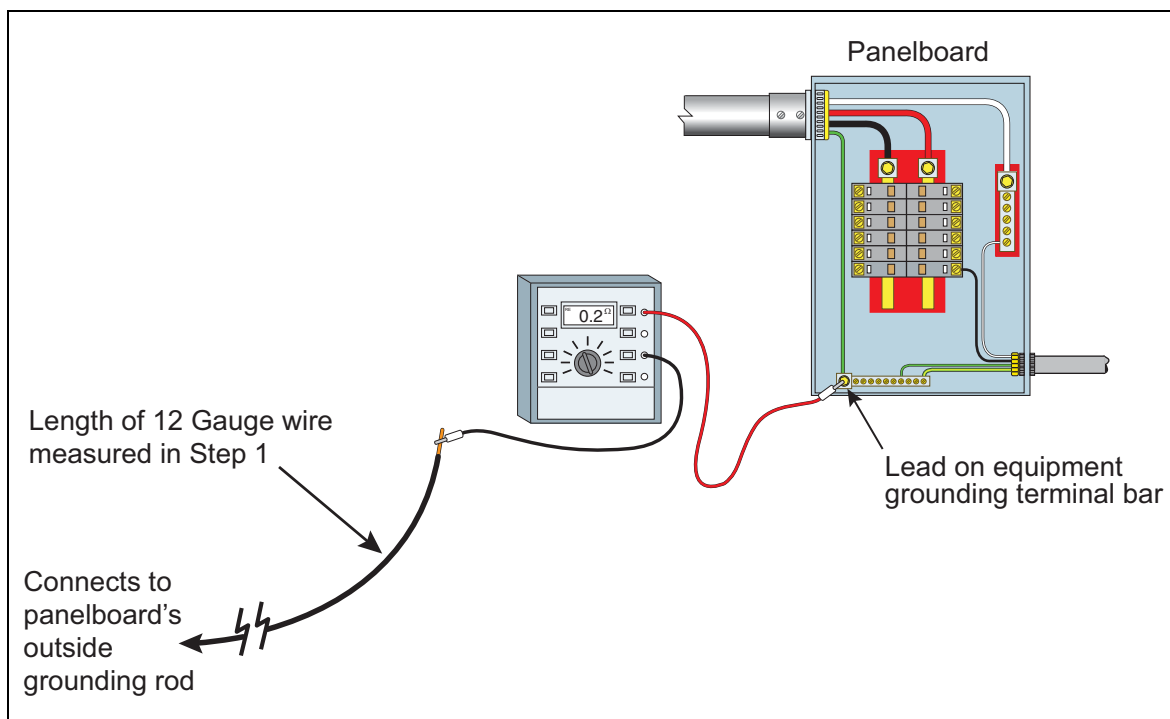

Figure 9. Panelboard To Ground Two Point Resistance Measurement Method - Step 3
| Figure 9. | Panelboard To Ground Two Point Resistance Measurement Method - Step 3 | 7 |
Step 3 requires ensuring that the site's grounding system itself be checked for a proper connection between the main panelboard and the actual earth ground. This is tested as described in Steps 1 and 2 above by using the ohmmeter and the same length of wire. Measure the resistance between the ground point in the electrical panel and the ground connection at the outside earth grounding system (see Figure 9). Again, the resulting resistance for the grounding connection must be less than one-ohm and ideally, should be less than two-tenths of one ohm (0.20 ohms).